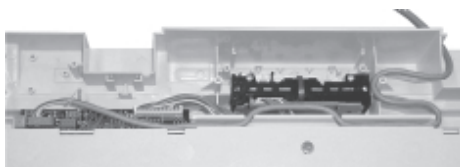

Figure 4: Cable outlet “left”
3. To reroute the cable to the left cable outlet, lay the cable as shown in Figure 4. Ensure that the cable will not be damaged.